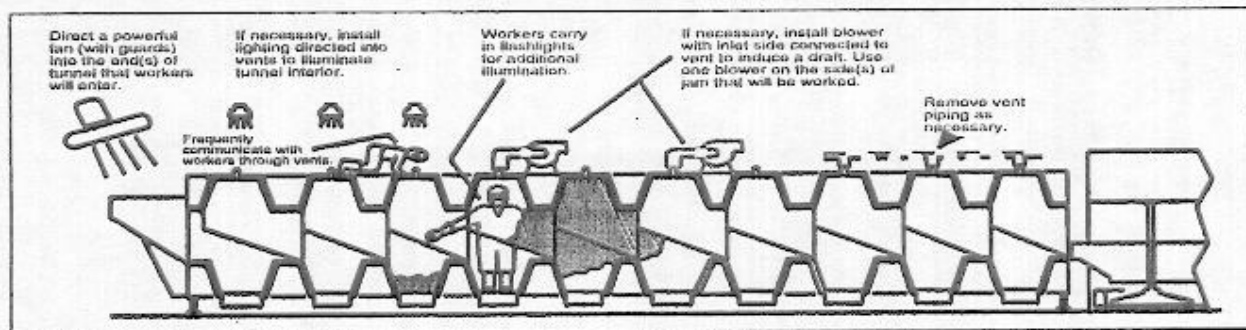

FIGURE 3
- 7. PROVIDE ADDITIONAL LIGHTING AND VENTILATION FOR THE WORKER(S) WHO WILL ENTER.** See FIGURE 3.